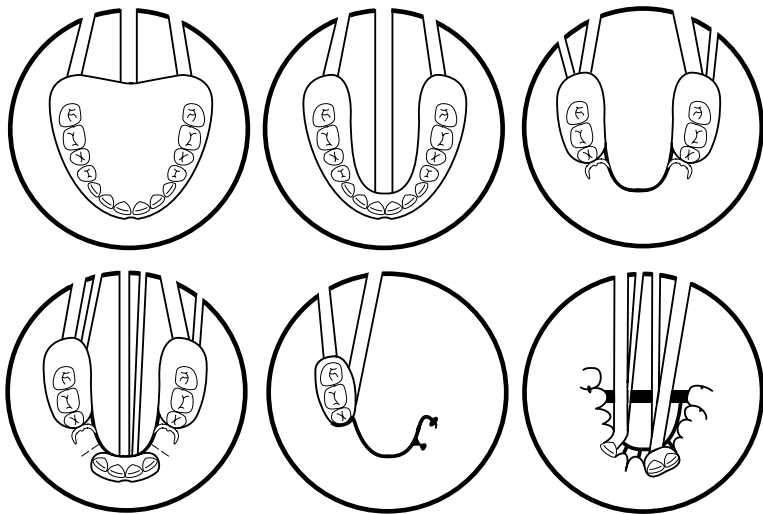

Figure 1. Spruing Techniques
**HYDROCOLLOID INVESTMENT AND SPRUING** - Incorporate a slight taper into base of cast to facilitate removal from the hydrocolloid. Taper the cast so the base is the widest. **Soak the waxed stone cast in slurry water (saturated calcium sulfate dihydrate solution) for 10-20 minutes prior to pouring the hydrocolloid mold.** Do not use \*Cetylclide-G® in the solution. Follow the manufacturers instructions for preparation and use of the selected hydrocolloid product and flask. Bore sprue holes in the hydrocolloid investment as shown in Figure 1. **IMPORTANT:** When fabricating partials each acrylic area must have two sprues to avoid trapped air.